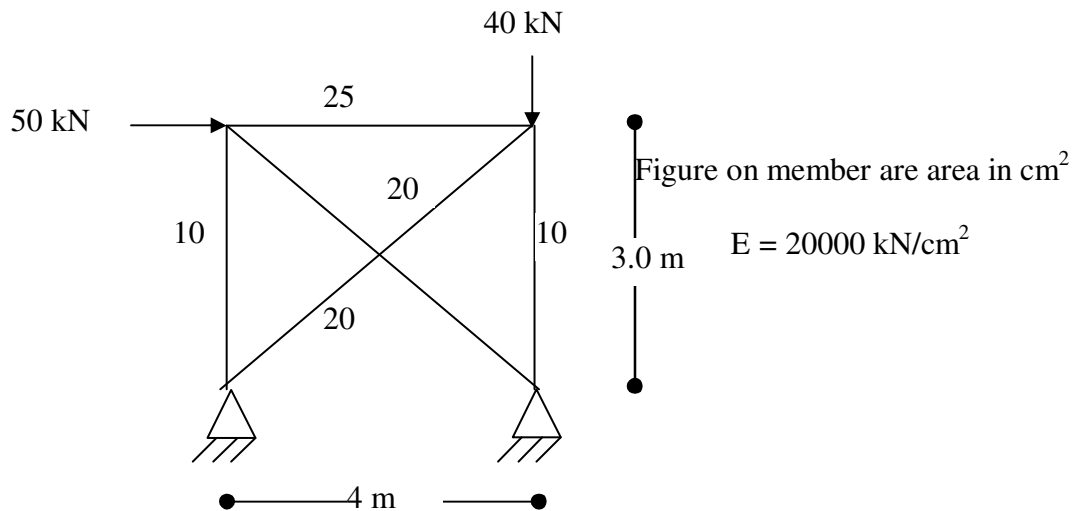

Fig. 2
- Q. 5 Evaluate global stiffness matrix for plane truss shown in fig. 2